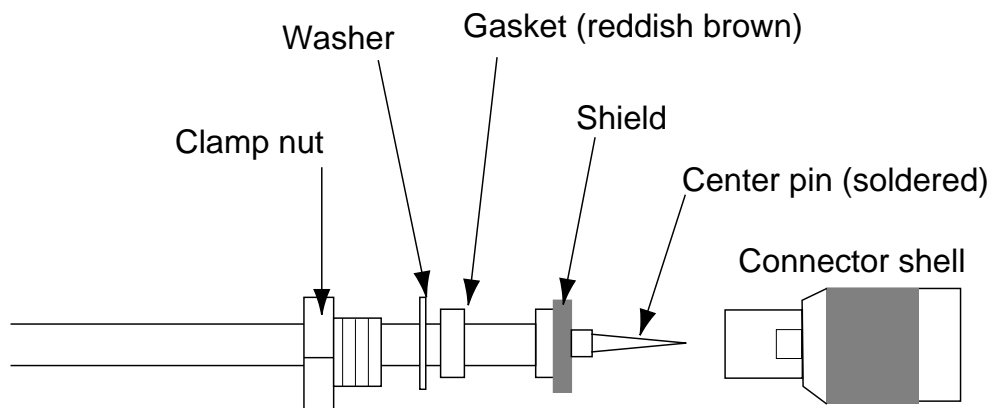

Figure 6-2 How to assemble the connector
- If the antenna cable is to be passed through a hole which is not large enough to pass the connector, you may unfasten the connector with a needle nose pliers and 3/8-inch open-end wrench. Refasten it as shown in Figure 6-2, after running the cable through the hole.